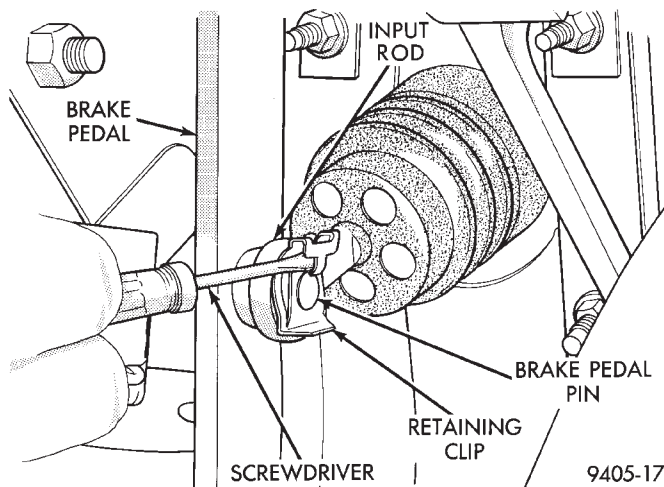

**Fig. 119 Brake Pedal Retaining Clip**
(4) Remove the retaining clip (Fig. 119) from the brake pedal pin using following procedure. Position a small screwdriver (Fig. 119) between the center tang on the retaining clip and the brake pedal pin. Rotate blade of screwdriver enough so center tang on retain-
ing clip can pass over end of brake pedal pin (Fig. 119). Then pull retaining clip off brake pedal pin.
(5) Install a **NEW** retaining clip (Fig. 119) on the brake pedal pin.